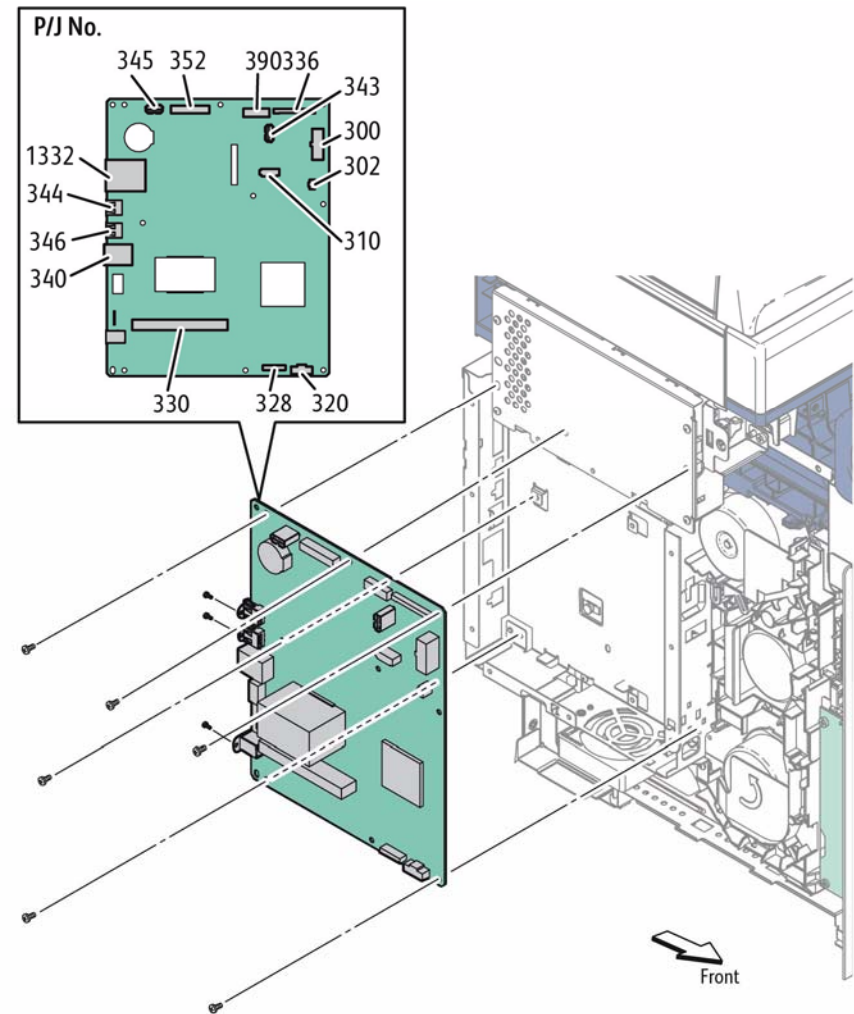

Figure 1 Unplug the IP Connectors and Remove the IP Board
5. Refer to Figure 1 to locate and unplug all connectors from the IP Board.
6. Refer to Figure 1 to locate and remove six screws (silver, 6 mm) from the IP Board, and three screws (silver, 4 mm) from the rear ports that attach the IP Board to the IP Box, then remove the board.